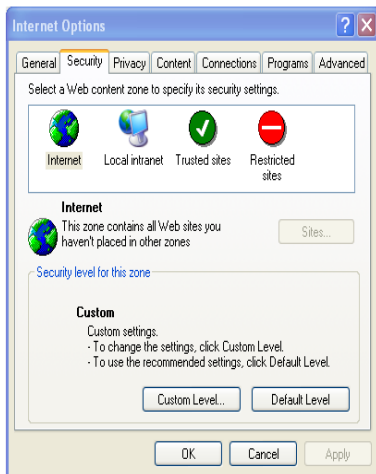

Fig 4-1
① Open IE browser. Click Tools-----Internet Options....
② Select Security-----Custom Level....Refer to Fig 4-1.